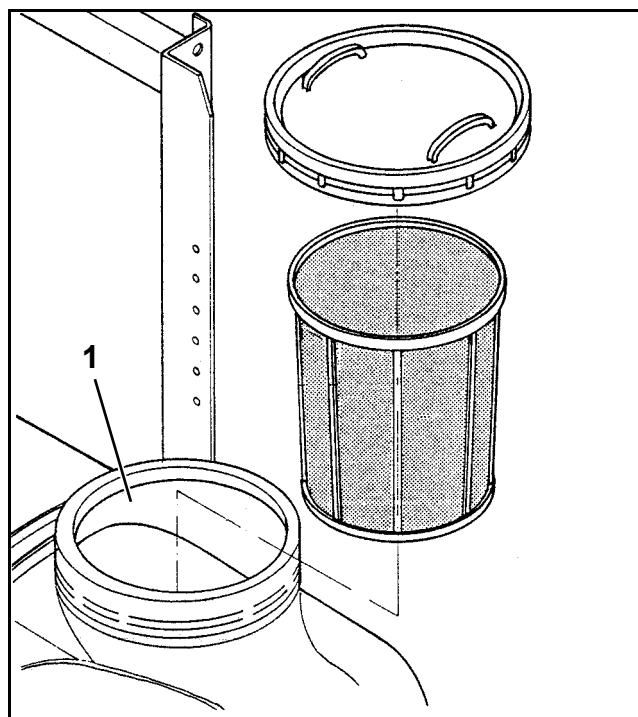

Fig. 31
- Pour in the calculated and metered spray agent quantity or the urea quantity necessary for one tank filling via the filling opening into the spray agent tank (Fig. 31/1).